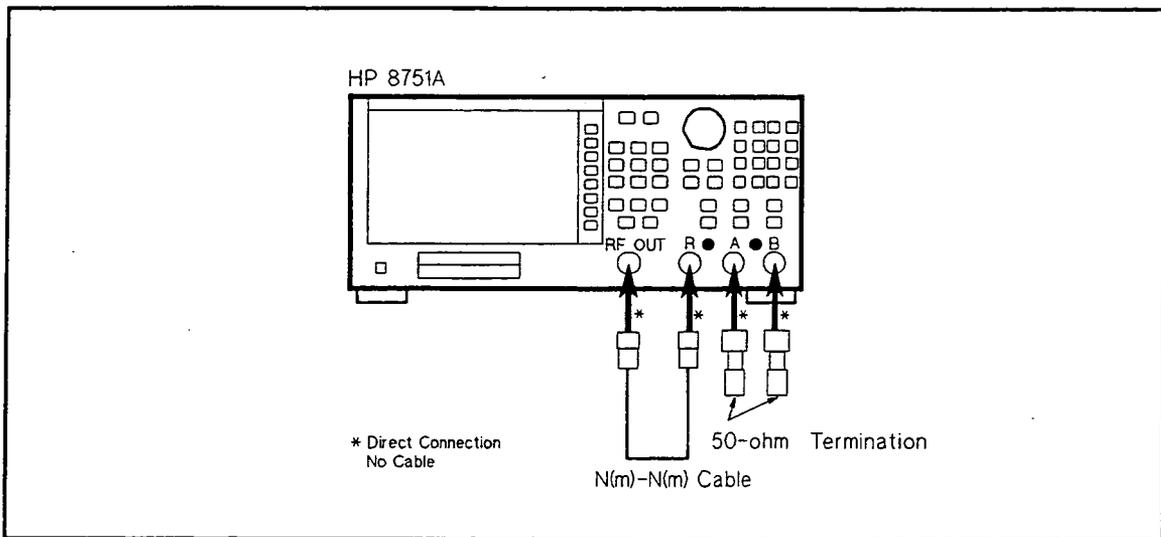

Figure 2-12. Crosstalk Test Setup 1
- b. Connect an N(m)-N(m) Cable between HP 8751A RF OUT and Input-R, and connect a 50  $\Omega$  Termination to Input-A and Input-B as shown in Figure 2-12.